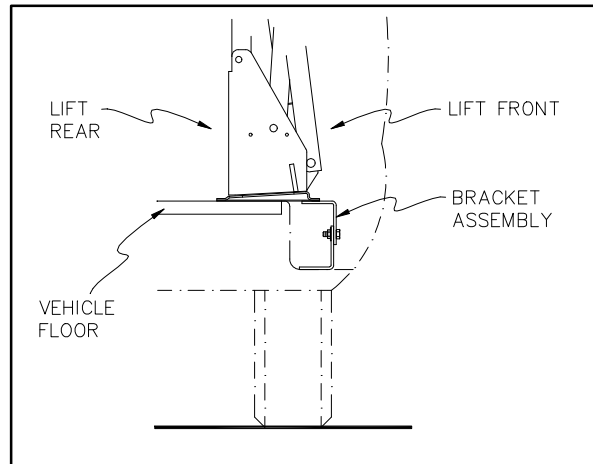

FIGURE 2-4: BRACKET ASSEMBLY
- d. Refer to **Figure 2-4**. With doors fully open, position lift in vehicle doorway so that back is supported by vehicle floor, and front is supported by both bracket assemblies.